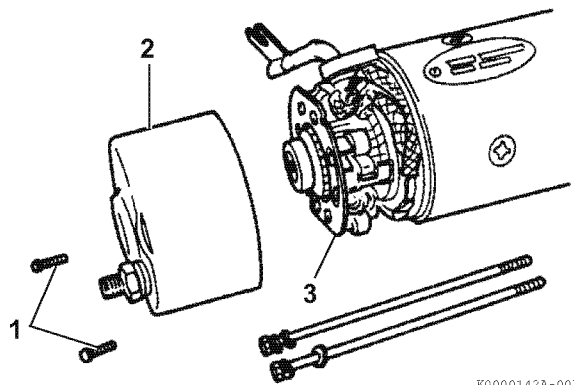

Figure 10-5
4. Remove the two screws (Figure 10-5, (1)) securing the rear cover (Figure 10-5, (2)) to the brush holder assembly (Figure 10-5, (3)).
5. Remove the two through-bolts. Remove the rear cover (Figure 10-5, (2)).